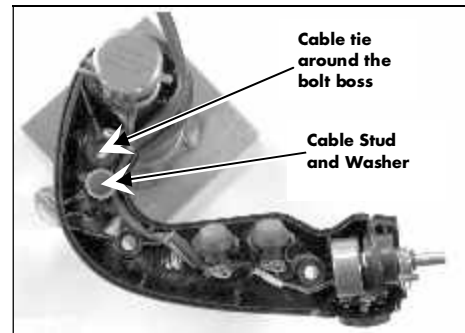

Figure 11: Control Handle cable routing
- Install a cable tie to hold the travel potentiometer wires away from the button head screw on the travel potentiometer positioner. Place the cable tie around the potentiometer wires and the bolt boss (See Figure 11). This will eventually be held in place by the top half of the handle.